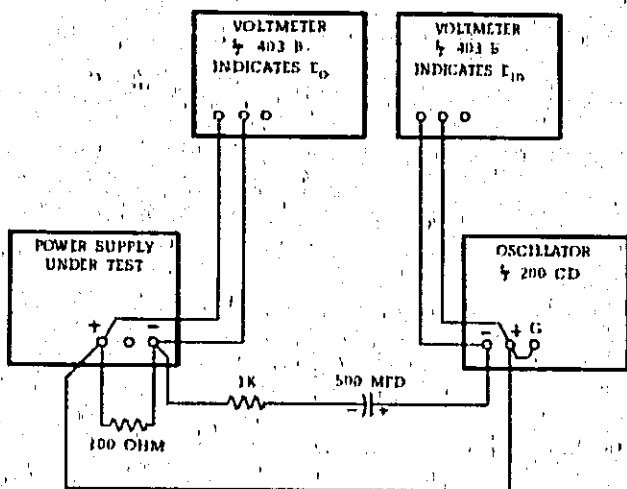

Figure 5-9. Output Impedance, Test Setup.
- Connect test setup as shown in Figure 5-9.